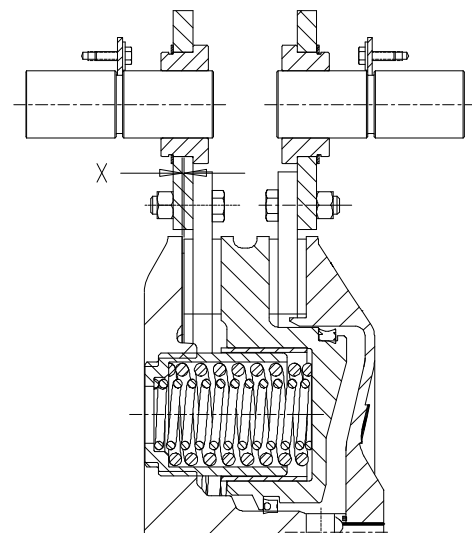

Figure 12
- 3.1.1 Inspect friction material for signs of wear. Refer to Figure 12, Table 5 and Table 9 for evaluating wear. Repair if limits are reached.
- 3.2.1 Refer to Figure 12. Exhaust all air pressure and measure the "X" dimension between the clutch disc and the flange on the hub. Refer to Table 5 for wear gap limits. If the maximum gap is achieved refer to the maintenance section for repair instructions.